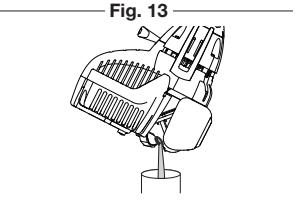

Fig. 14
- Pour the oil out of the oil fill hole and into a container by tipping the unit to a vertical position (Fig. 14). Allow ample time for complete drainage.